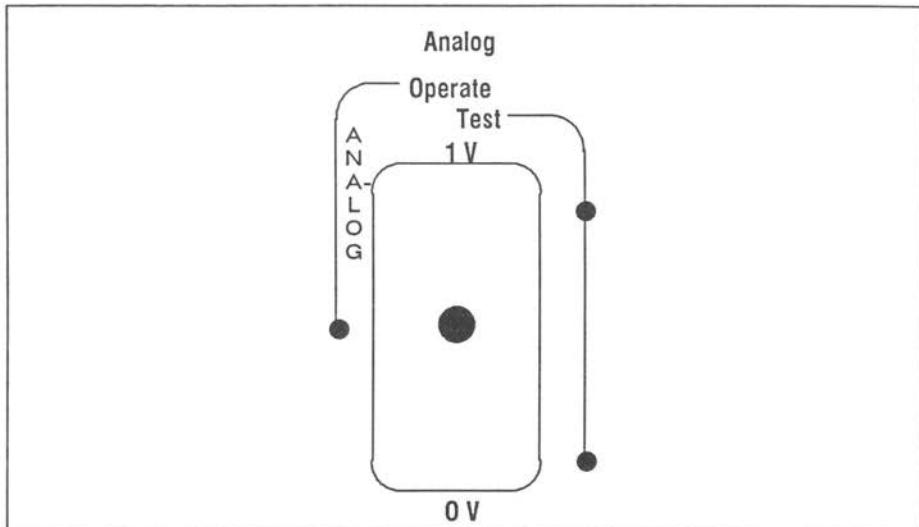

Figure 7-7. Analog Input Switch in Operate Position
2. Locate the analog input switch located on the rear panel. Using a small straight-blade screwdriver, set the switch to the 0-V (down) position. (See figure 7-7.)